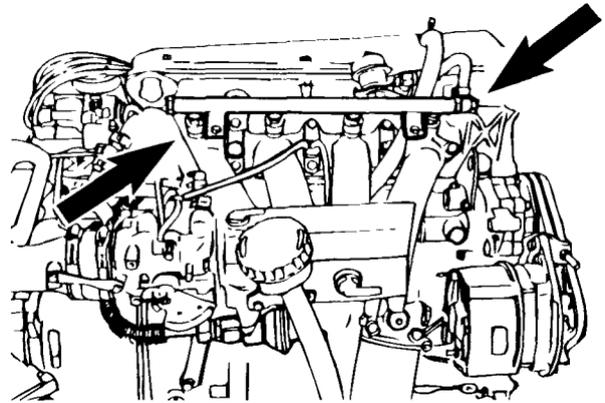

Fig. 28. Fuel rail assembly and fuel lines (arrows).
3. Disconnect the fuel inlet and outlet hoses on the fuel rail by removing the banjo bolts. See Fig. 28.